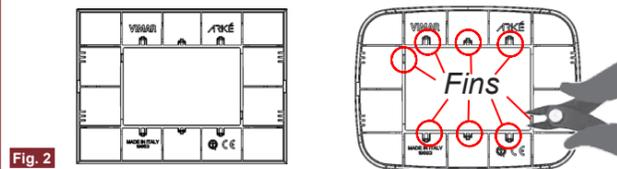

Fig. 2
With this Holder plate (Fig.2) you can mount the following plates:
**WARNING:** To mount VIMAR plates series ARKE' (Color-Tech and Tecno-Basic), remove the 8 fins present on the back of ARKE' plate with a nippers (Fig.2).
To mount VIMAR plates series ARKE', remove the 8 fins present on the back of ARKE' plates with a nippers (Fig.2). In order to assembly these plates operate with a nippers, on the section indicates in 3 figure, by eliminating A PART of all 4 hooks of the "A" Holder plate.